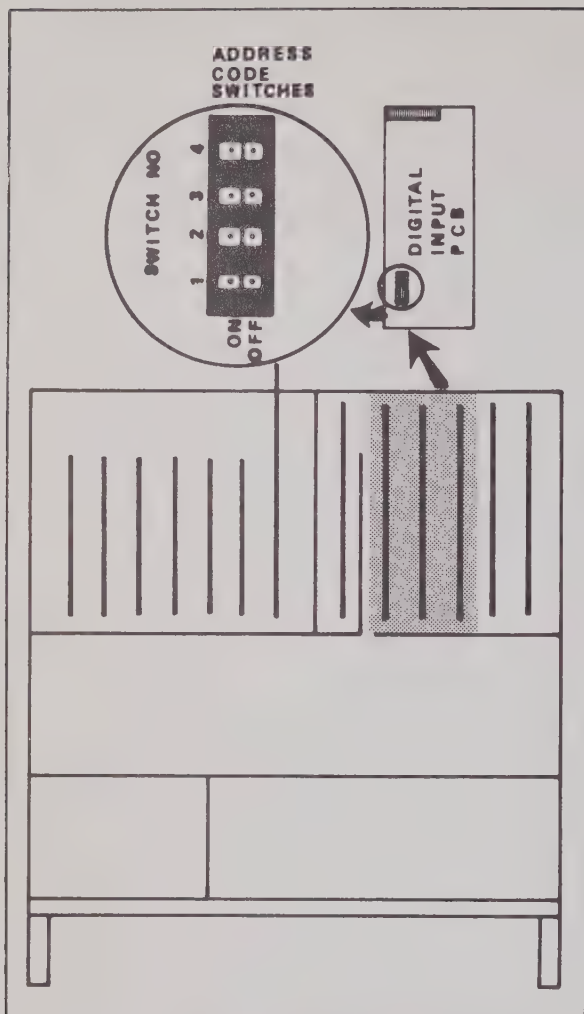

Figure 616-1. Data Input Option, Installation and Switch Locations
616-7. Up to three Digital Input PCB's can be mounted in the data logger's I/O slots, as shown in Figure 616-1. Install each pcb as follows:
- Locate the Address Code Switches on each Data Input PCB as shown in Figure 616-1, and assign consecutive address codes (starting with 0) to each pcb by setting the switches to the patterns shown in Table 616-2. When Digital Input Data is recorded address 0 is read first, 1 second, and 2 last.